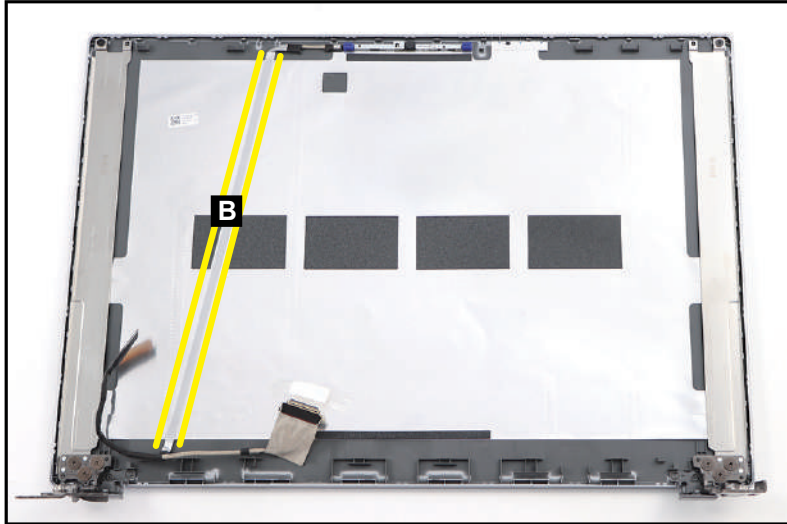

Figure 3-94. Replacing the LCD Cable
2. Continue to route the LCD cable (B) through the cable guides on the LCD cover as shown in Figure 3-94. Press and straighten the cable to ensure its underneath adhesive is properly attached to the LCD cover.
Make sure the LCD cable is properly placed onto its designated cable routing path highlighted by the yellow lines as shown in Figure 3-94.